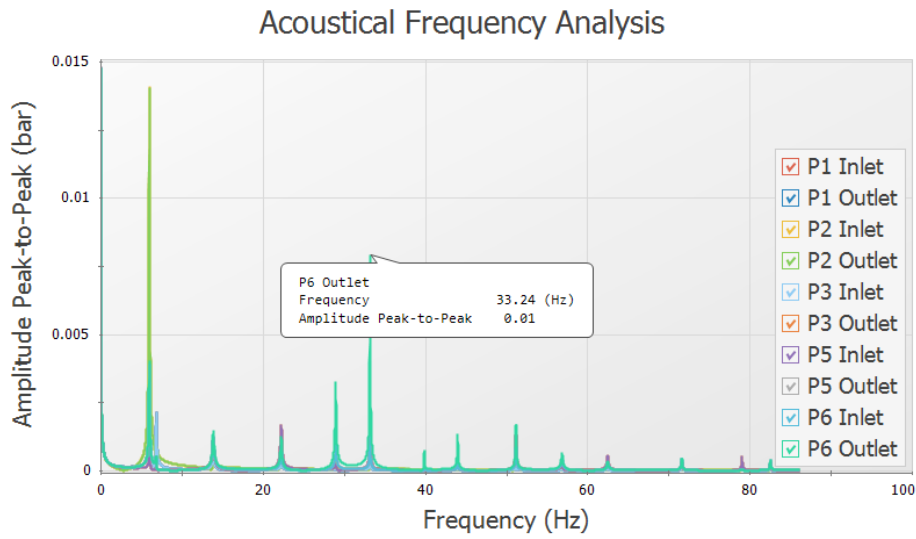

Figure 11: Excitation Frequency Analysis with Dialog Flag
- b. Left-click near the frequency of about 33.24 Hz and drag the mouse over the peak on the graph near this frequency. This will highlight and flag the local maximum. Figure 11 shows the frequency graph after the dialog flag appears.